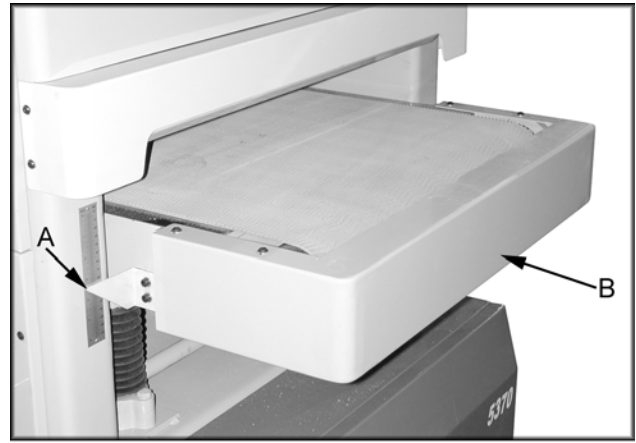

Figure 18
After setting the present value using the calibration board adjust the pointer (A, Figure 18) so that it matches the present value.
1. Remove the guard (B, Figure 18).